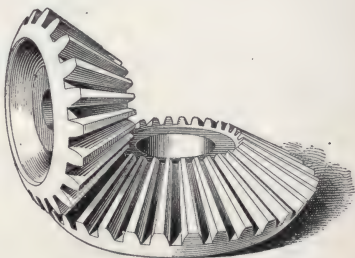
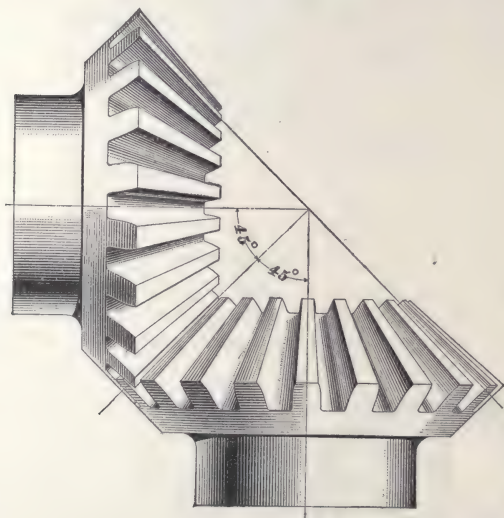

FIG. 21.
FIG. 22.
**43.** In Fig. 21 is shown a pair of **bevel gears** in mesh. Of the two wheels shown, one is smaller than the other; when both wheels of a pair of bevel gears are of the same diameter they are called **miter gears**. In Fig. 22 is shown